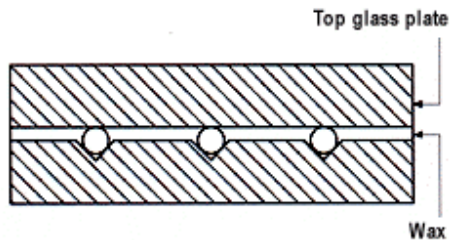

Figure 38
- A second glass plate was waxed on top of the fibers (figure 38).